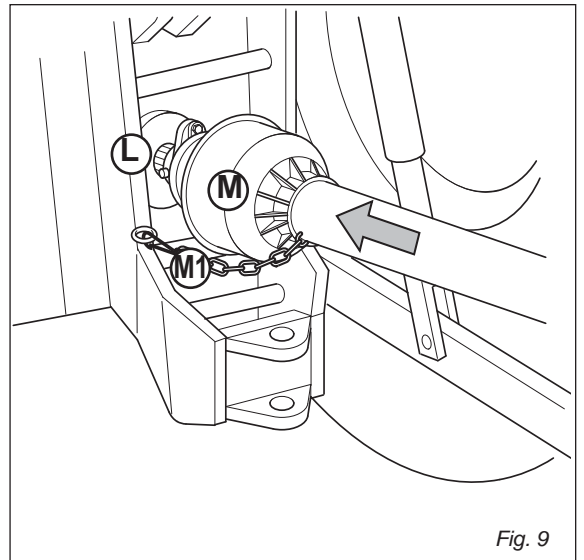

Fig. 9
- Install PTO shaft to tractor (Fig. 9).